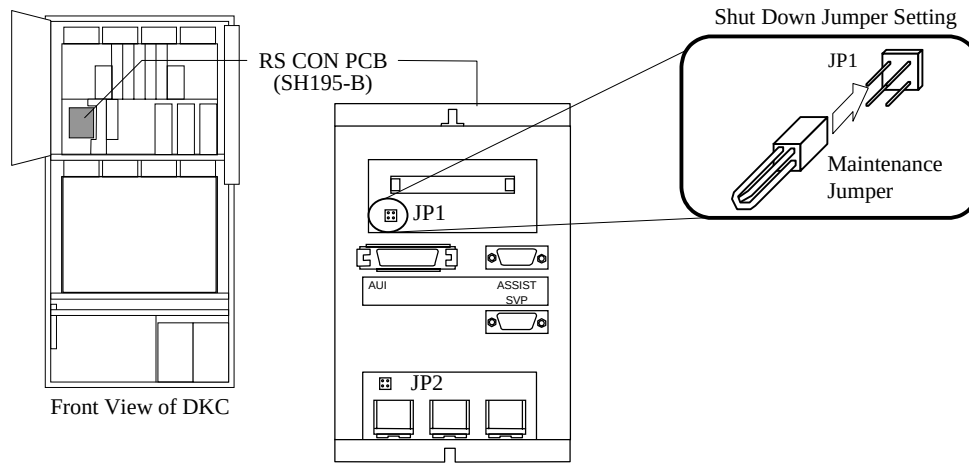

Fig. 3.18-3 Jumper settings of RS CON PCB
- a. Remove the maintenance jumper of the JP1 on the RS CON PCB. (See Fig. 3.18-3.)